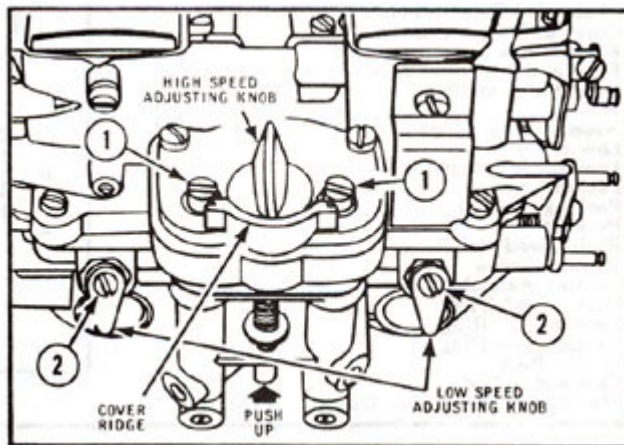

Figure 2
B. Synchronizing High and Low Speed Needles: (Fig. 2)
C. Motor Running Adjustment: (Fig. 2)